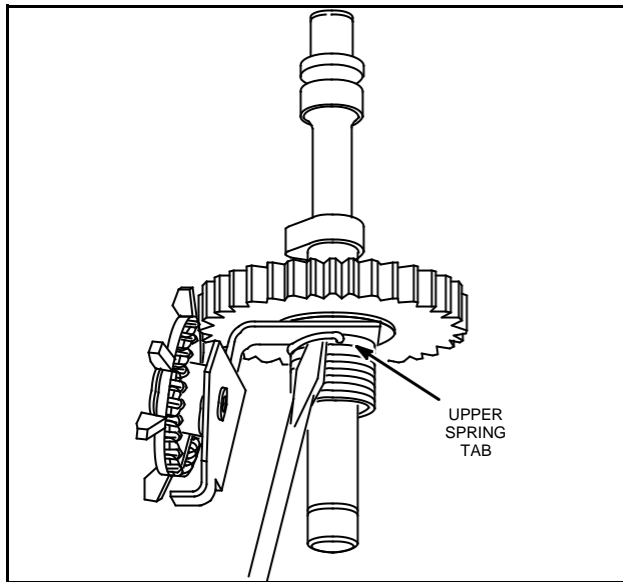

Fig. 160 - REMOVE CLUTCH SPRING
5. Slide clutch spring down, Fig. 160 and lift out upper spring tab to remove spring. Cam gear, oil slinger and clutch drive hub are serviced as an assembly.